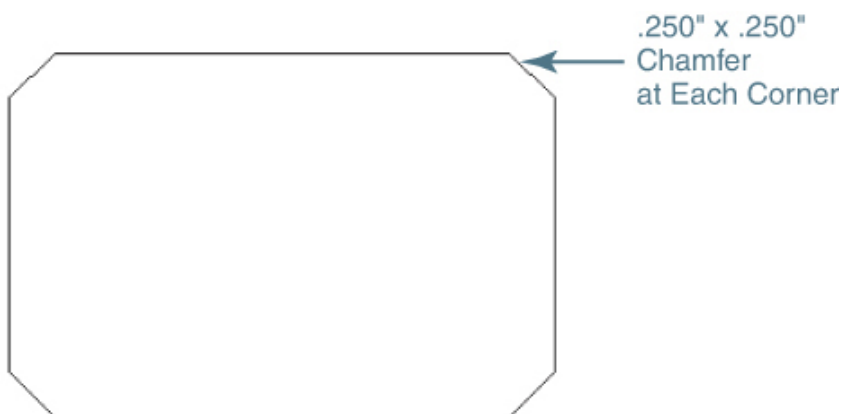

Figure 9-25
After you select the **Chamfer** option, enter the distance for the first leg of the chamfer and press **<Enter>**. AutoCAD then prompts you to *Specify second chamfer distance for rectangles<0.2500>*: using the first distance as the default. Typically, you want to simply press **<Enter>** to accept the default and create a rectangle with 45° chamfers, although you can specify a different distance. After entering the chamfer distances, you can create a rectangle with chamfered corners using any of the techniques already explained. Figure 9-25 shows a 3.000" × 2.000" rectangle drawn with .250" × .250" chamfered corners.
- 2 Draw a 3.000" × 2.000" rectangle with .250" × .250" chamfered corners similar to the rectangle shown in Figure 9-25 using the **RECTANG** command and the **Chamfer** option.